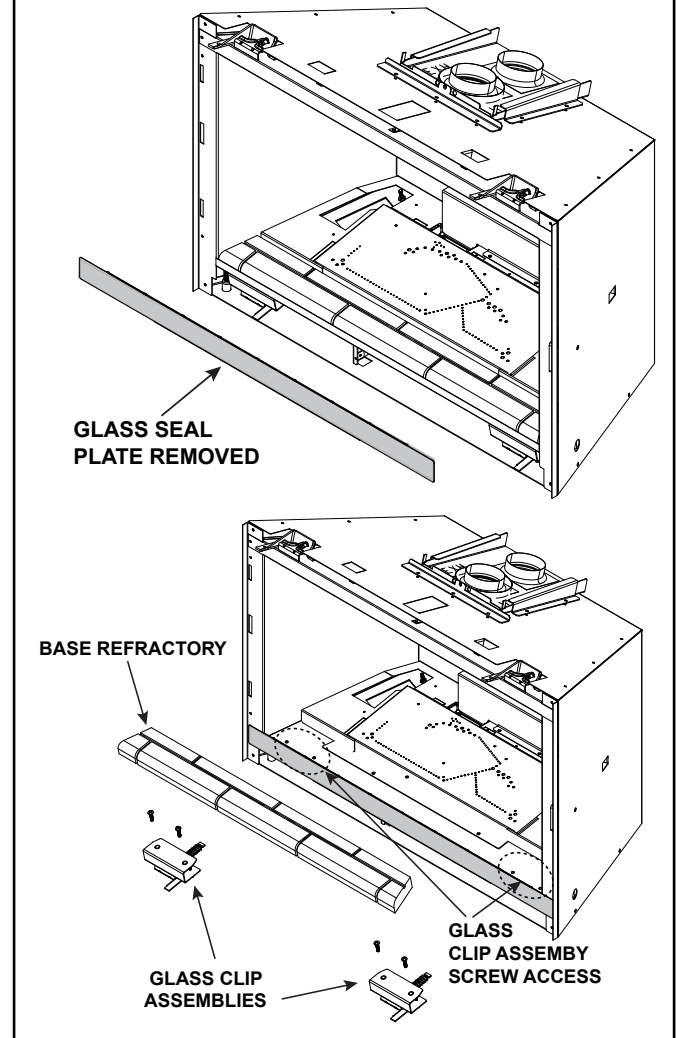

Figure 1 Glass Seal Plate installed with Glass Clip Assemblies Removed
3. Remove glass seal plate. See Figure 1.
- For easier access to components the bottom glass clip assemblies can be removed. See Figure 1.
28. Reinstall the bottom glass clip assemblies if removed. See Figure 1.
31. Reinstall the glass seal plate. See Figure 1.